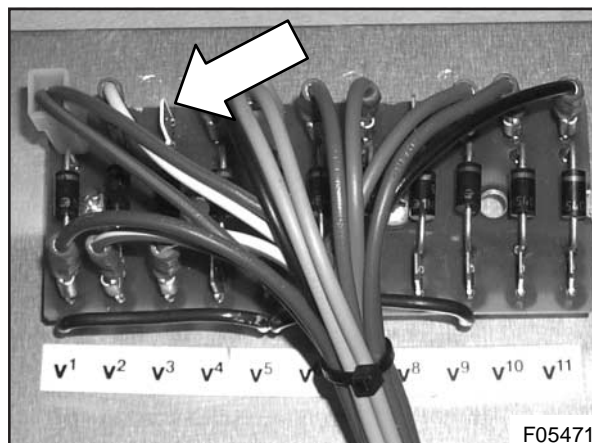

Figure 7 : Vacant terminal of diode V3
- 7) In the HVAC junction box, connect the blue/white wire to the vacant flat blade terminal of diode V3 on the diode panel (see Figure 7).